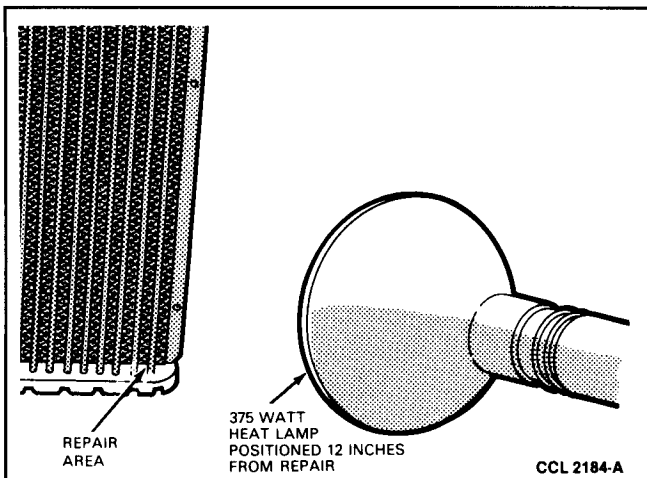

FIG. 19 Heat Lamp Positioned to Cure Repair
- Position the 375 watt heat lamp, 305mm (12 inches) from the repair and allow the repair to cure for 2 hours (Fig. 19). **DO NOT** position the heat lamp closer to the repair than 305mm (12 inches). **DO NOT** use a heat gun or **overheat** the repair material.